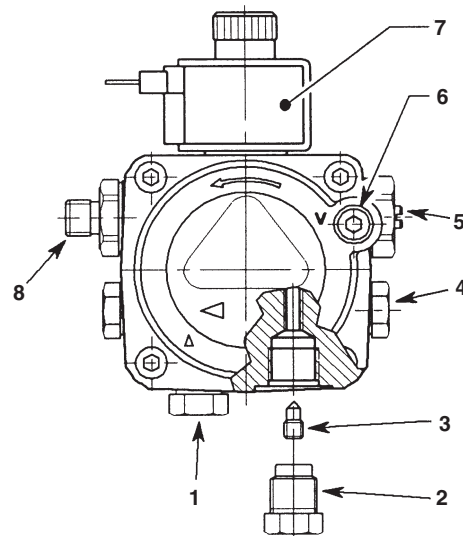

Fig. 7 - Riello RDB pump
Riello RDB burner - See Fig. 7
- 1 The fuel pump is supplied for use with a single pipe fuel supply system. For use on a two pipe system, it is necessary to fit the By-pass screw (see Fig. 7) into the tapping in the return port.
- 7 Flexible fuel hoses and adaptors are available to purchase from Grant Engineering (UK) Ltd.